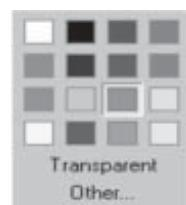

Fig. 4-41 Set the Background of the Hot Area
2. Set Hot Area background. Click the **quick icon**  of the background setup, the dialogue block, as in Fig. 4-41 of colour will be seen. The background colour can then be set in the diagram.